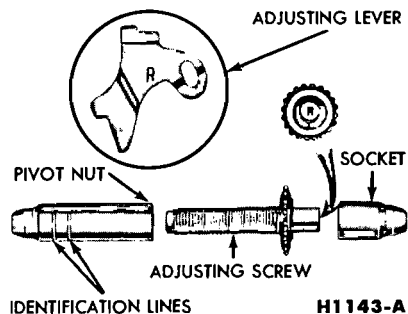

FIG. 10—Adjusting Screw and Lever Identification
Interchanging the brake shoe adjusting screw assemblies from one side of the car to the other would cause the brake shoes to retract rather than expand each time the automatic adjusting mechanism operated. To prevent accidental installation of the adjusting screw on the wrong side of the car the socket end of the adjusting screw is stamped with an R or L (Fig. 10). The adjusting pivot nuts can be distinguished by the number of grooves machined around the body of the nut. Two grooves indicate a right-hand nut; one groove indicates a left-hand nut.
9. Hook the cable hook into the hole in the adjusting lever. The adjusting levers are stamped with an R or L to indicate their installation on a right- or left-hand brake assembly (Fig. 10).